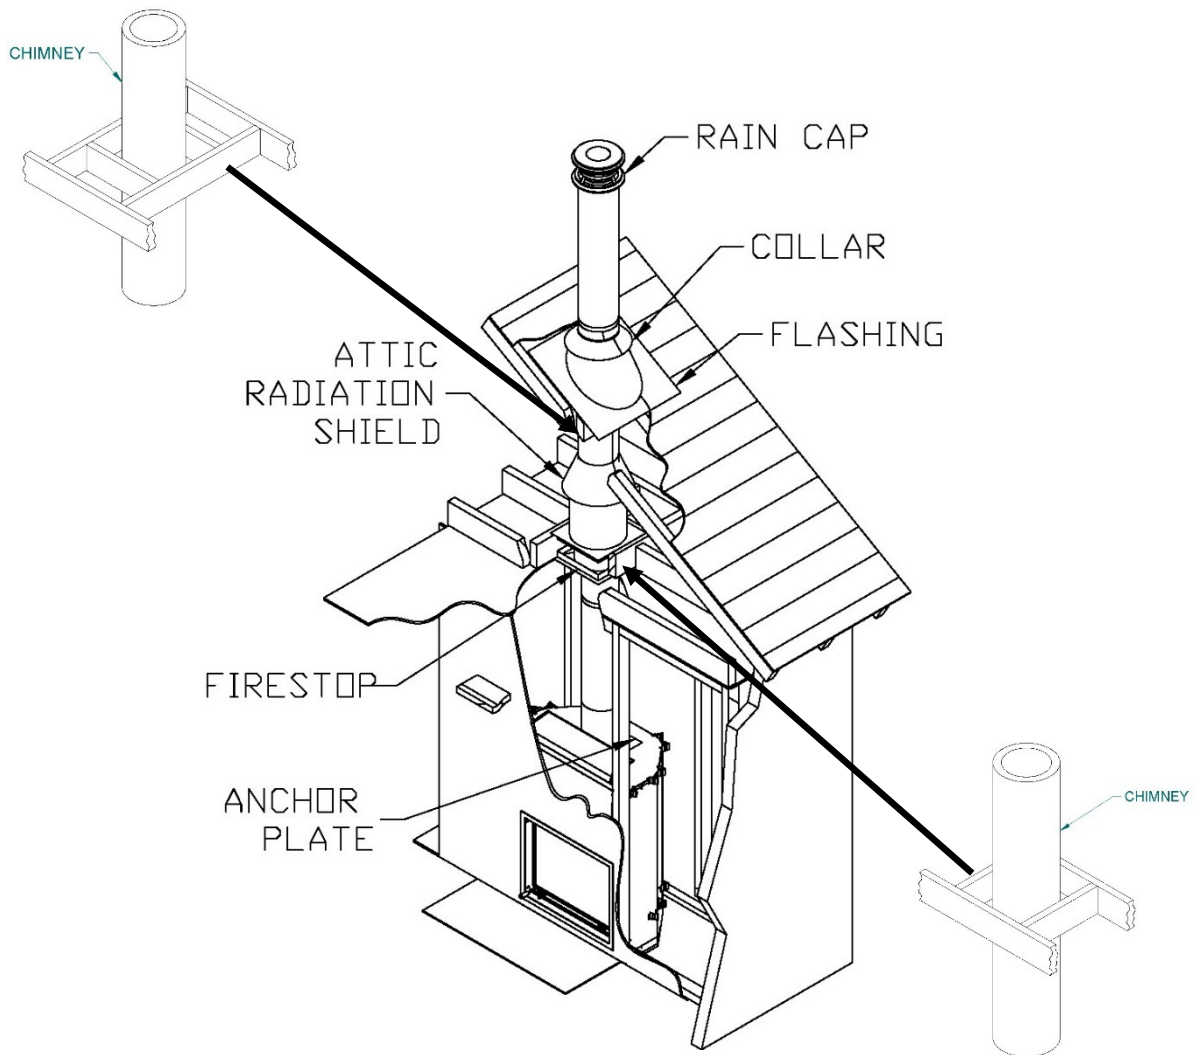

Figure 33
2. From below, install a firestop supplied by the chimney manufacturer in each ceiling/floor separation through which the chimney will pass. At the attic level, install an attic radiation shield from above (**see Figure 33**).
3. Follow the chimney's manufacturer's instructions and place the first chimney length on the fireplace. For all chimneys, you must use an anchor plate supplied by the chimney manufacturer before installing the first chimney length (**see Figure 33**). Continue installing chimney lengths making sure to lock each length in place according to the chimney manufacturer's instructions. In many cases, it is recommended to secure connections with three (3) ½" (12 mm) metal screws.
5. Then, put the roof flashing in place and seal the joint between the roof and the flashing with roofing pitch (**see Figures 33**). For sloping roofs, place the flashing under the upper shingles and on top of the lower shingles. Nail the flashing to the roof, using roofing nails.